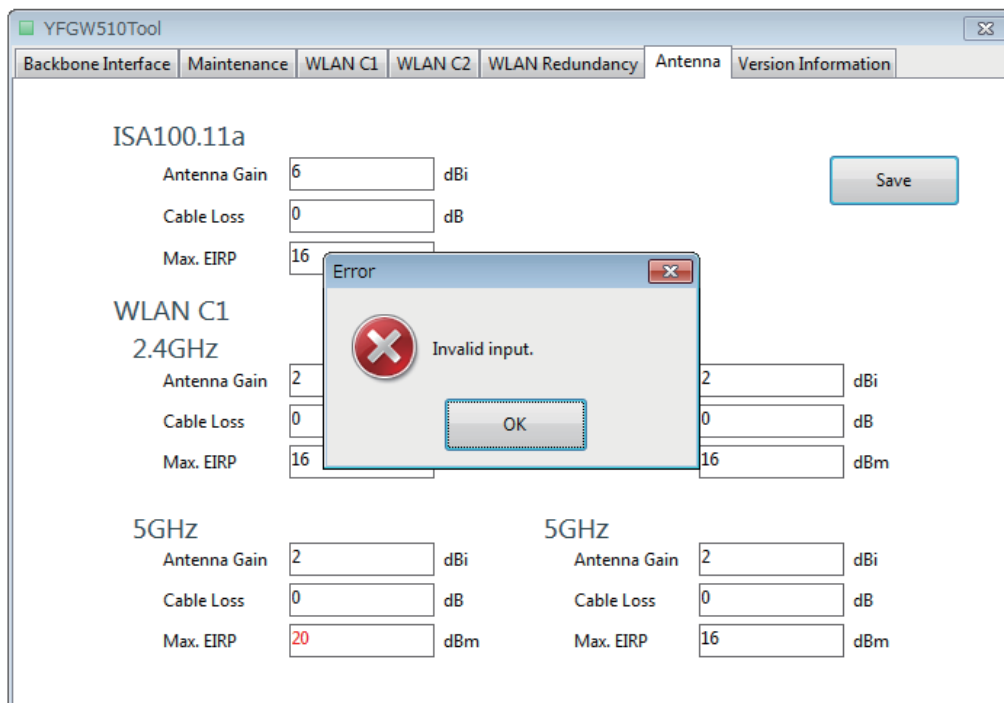

Figure 3-6 Error dialog
- If any value is out of range, the error dialog appears as shown in Figure 3-6.